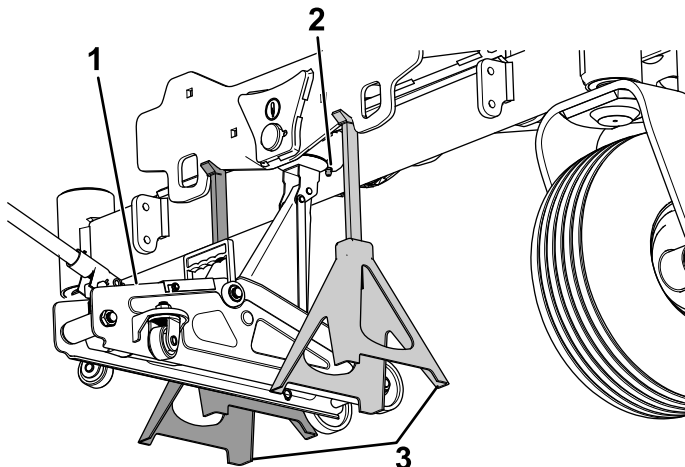

Figure 69
- Front—center of the front caster wheel axle as shown in Figure 69.